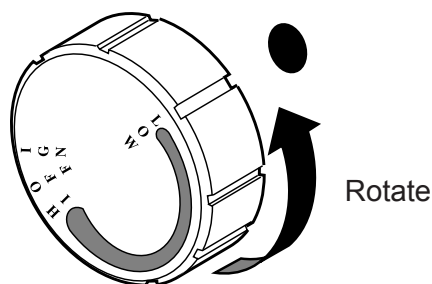

Figure 48 - Rotation of Control Knob
10. Turn control knob to any position between LOW and HIGH. The knob position controls the thermostat temperature. See *Figure 48*.